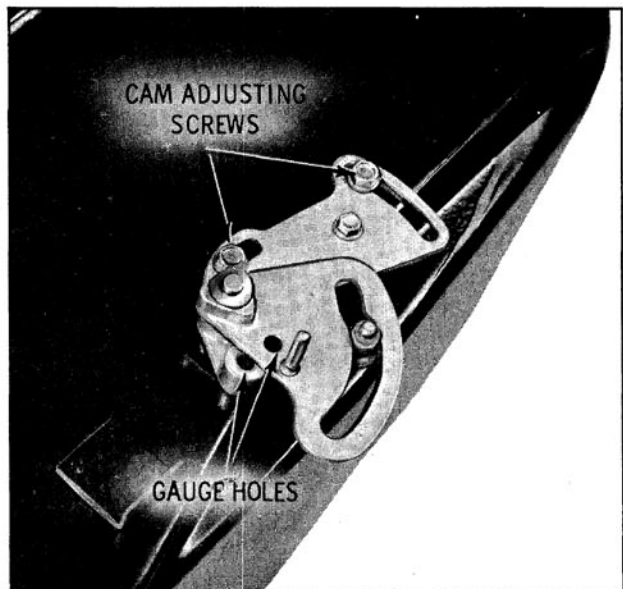

Fig. 14-75 Cam Adjustment
3. While holding the upper half of the cam to the extreme left position, move the lower half until a 3/16" pin can be inserted into the gauge holes. (Fig. 14-75)